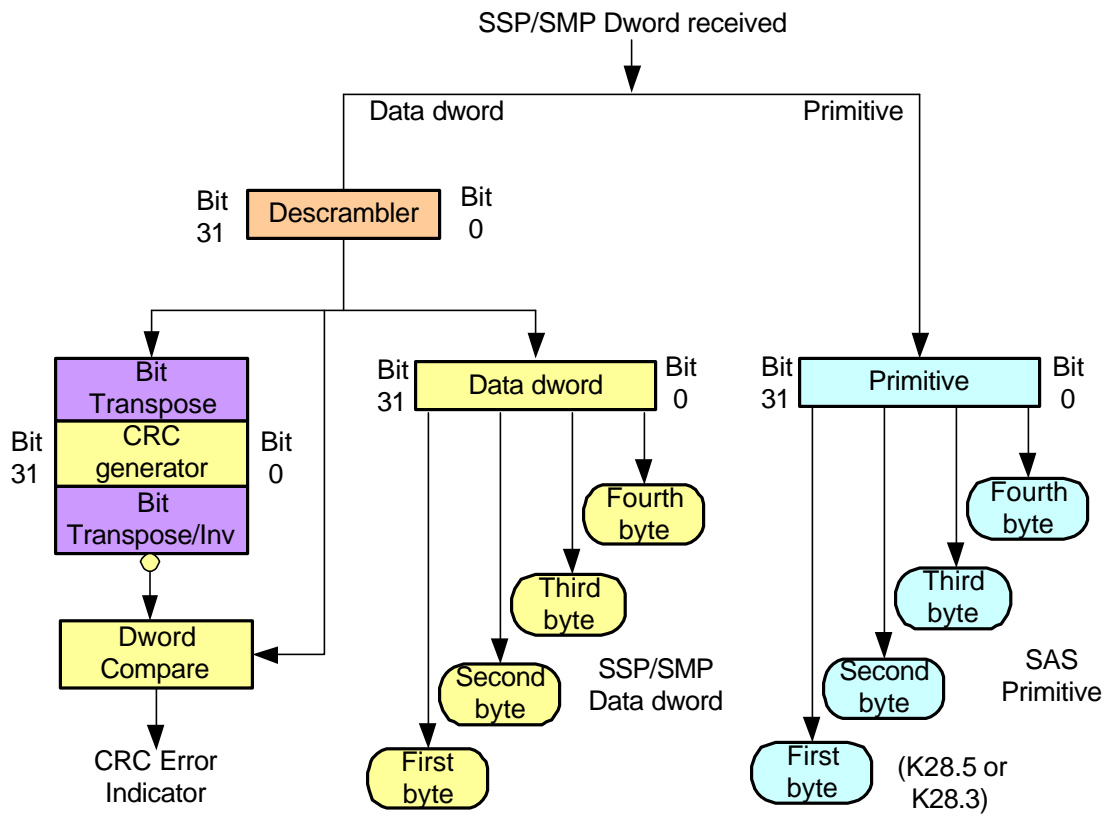

**Figure 55 – SSP/SMP CRC generator/checker byte and bit order**
2) Figure 55 is missing bit inversion at the output of the CRC generator. Propose to replace with the following figure which shows the outputs being inverted, and shows the bit ordering within each byte: